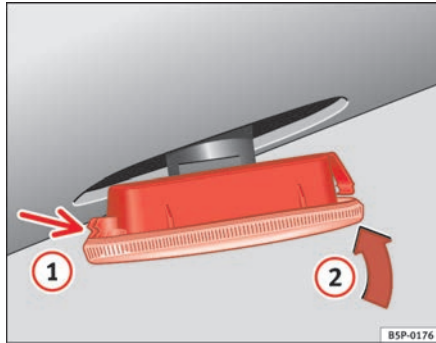

Fig. 173 Side indicator
- First place the indicator in the opening in the bodywork, fixing the tabs ⇒ fig. 173, arrow ①.
- Insert the lamp as shown by the arrow ② ⇒ fig. 173. ■